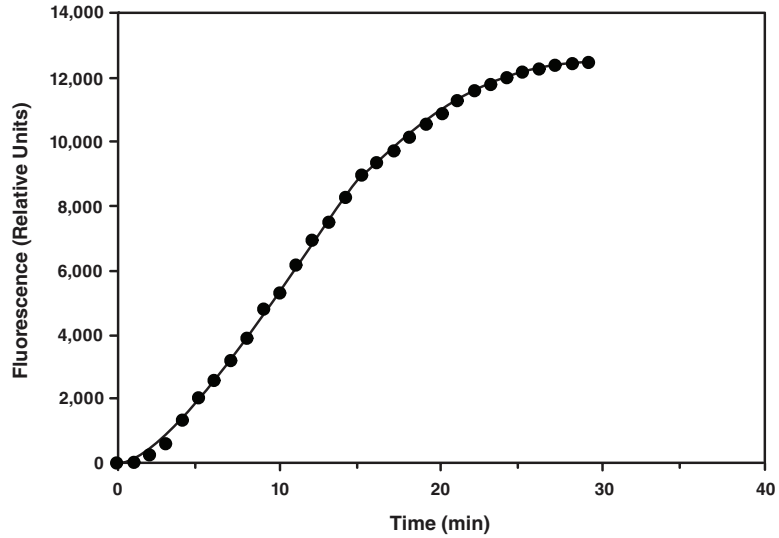

Figure 3. Human lysine specific histone methyltransferase, SET7/9 assayed with 20 μ M TAF-10 as the acceptor substrate.
This assay is suitable for use with all purified SAM-dependent methyltransferases. It is necessary to titrate each enzyme/substrate system in the assay to determine optimal conditions. An example of human lysine specific histone methyltransferase, SET7/9, assayed with 20 μ M of the acceptor substrate TAF-10, is shown in Figure 3 on page 18.⁴ Avoid the use of reducing agents (including DTT, β -mercaptoethanol, and TCEP) and metal chelators, such as EDTA and EGTA, as these have an inhibitory effect on the reaction. If these reagents are present, dialysis against 0.1 M Tris-HCl, pH 8.0, is recommended.
- a. Obtain the slope (rate) of the linear portion of the curve. An example of human lysine specific histone methyltransferase, SET7/9 assayed with 20 μM TAF10 is shown in Figure 3, on page 18.